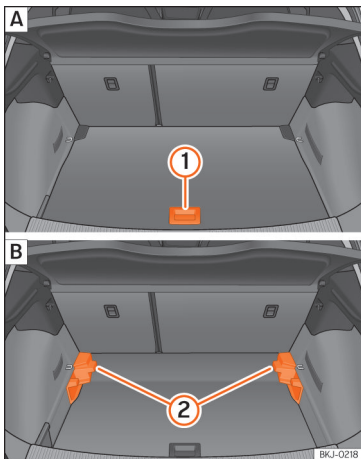

Fig. 118 Variable luggage compartment floor: **A** raised position; **B** lowered position.
- To move from the low position to the high position, lift the floor using the handle »» **Fig. 118** ①, and pull it back until the front of the floor has fully passed the supports ②.
- Move the floor forward over the supports as far as the rear seat backrest and then lower the floor with the handle ①.
- To move from the high position to the low position, lift the floor using the handle »» **Fig. 118** ①, and pull it back until the front of the floor has fully passed the supports ②.
- Now let the front part fall to the floor and slide the floor forwards as far as the rear seat backrest; lower the floor at the same time with the handle ①.
- Lift the variable floor in the high position using handle »» **Fig. 118** ①, pull it up and push it towards the backrest of the rear seats until it folds along the hinge line and the movable part of the floor is resting on itself.